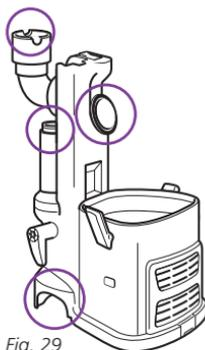

Fig. 29
- Remove the dust cup and extension wand and separate the portable *Lift-Away™* canister from the motorized floor brush. Look in all 4 openings for any blockages. (Fig. 29)